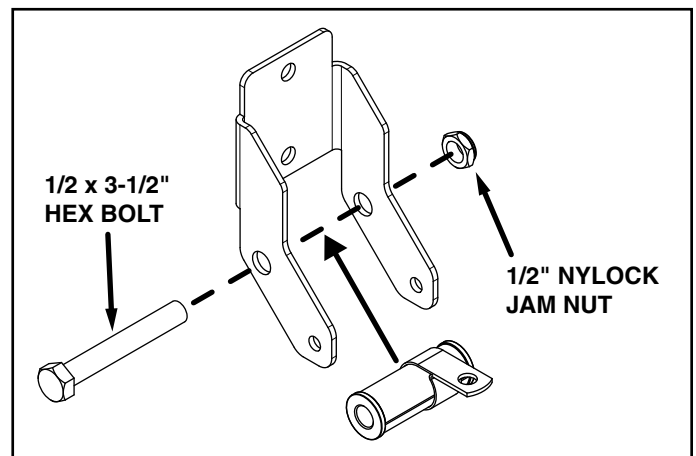

FIGURE 8
2. Attach each of the bearing, spacer, and clamp assemblies to a mount bracket using a 1/2 x 3-1/2" hex bolt and 1/2" nylock jam nut. See figure 8.